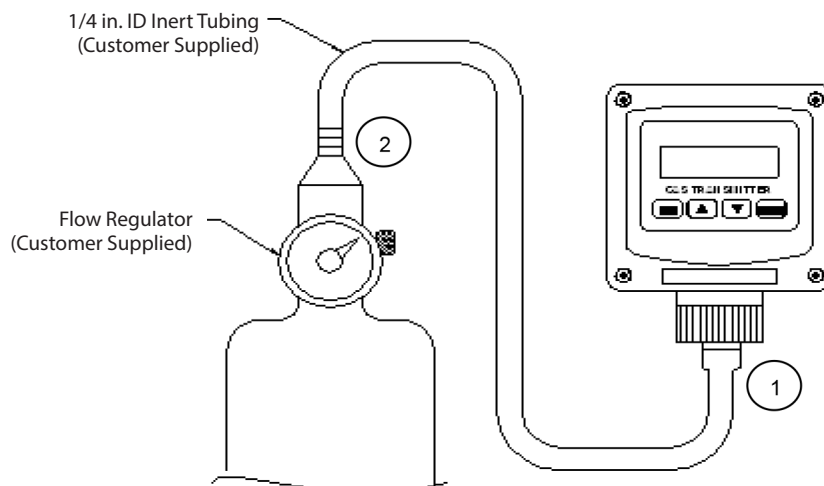

Figure 41: Sensor zero cal. setup
Referring to Figure 41, push the calibration adapter onto the exposed end of the sensor and connect one end of the tubing (1), connect the other end of tubing to the cylinder's regulator (2). Do not open the gas valve until instructed below.